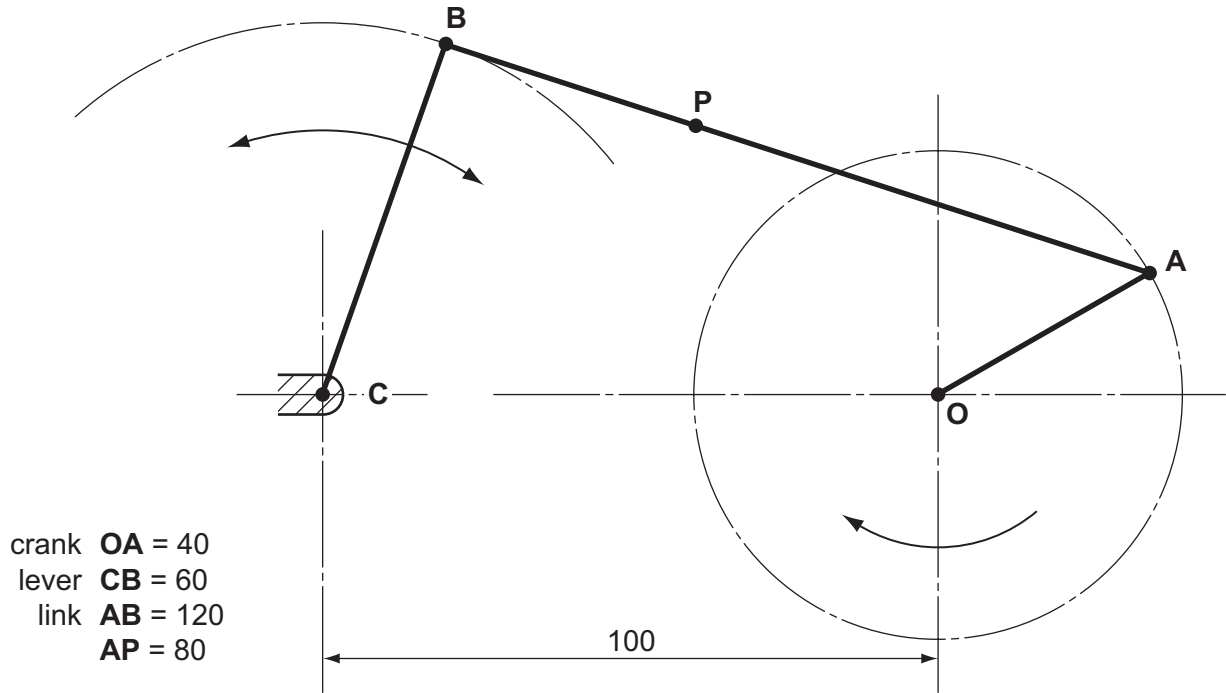

Fig. 2
- 2 Fig. 2 shows crank **OA** and a lever **CB** connected by a rigid link **AB**, with pin joints at **A** and **B**. The crank **OA** rotates clockwise about the fixed centre **O**, whilst **CB** oscillates about the fixed centre **C**.